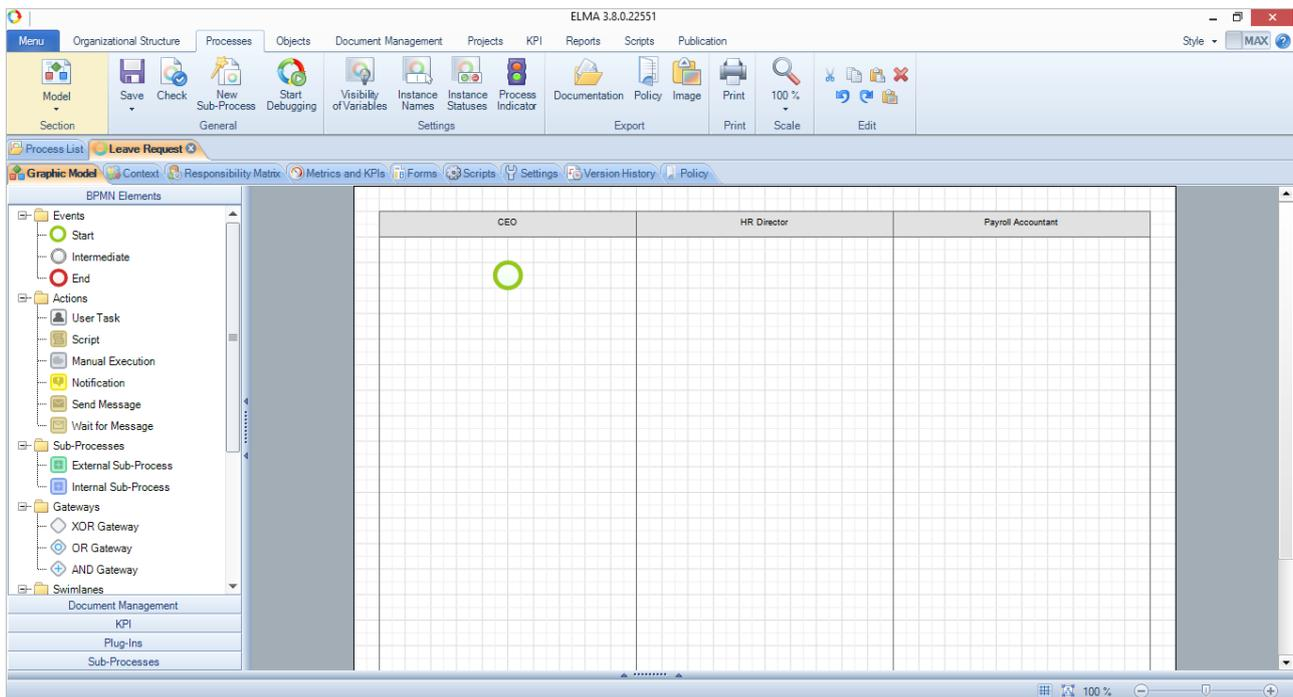

Fig. 48. New process with swimlanes
**ELMA Designer** will create a new business process with the start event and the swimlanes defined in the **Step 2** of **Process Creation Wizard** (Fig. 48). If you do not selected process participants in the **Step 2**, the new process will be created without swimlanes.